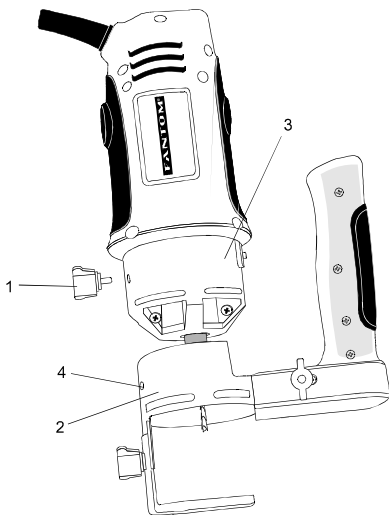

Fig. 10
1. Remove accessory locking knob (1) from the base of the spin saw motor housing (see Fig. 10). Slide precision handle mounting bracket (2) onto the bottom of motor housing (3) until the mounting hole (4) lines up with the hole in the motor housing.